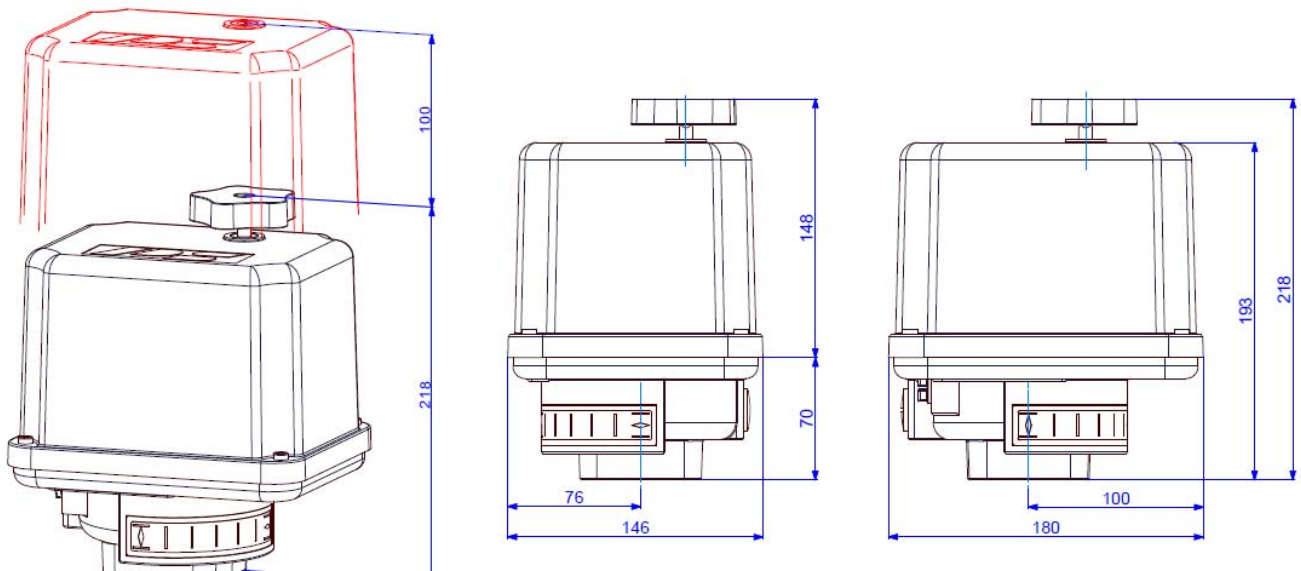

Figure 1: Installation dimensions PSR-E-C
- When installing the actuators, leave enough space to allow cover removal (Fig.1).